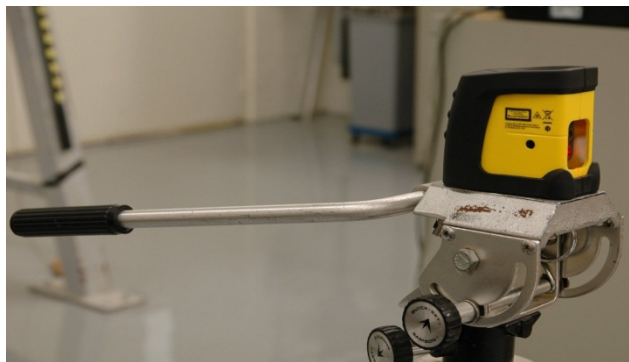

Figure 100. Laser line device set on tripod
- Unfasten the upper portion of the suit jacket and electrically ground the dummy using a cable between a metal component of the dummy and the ground such as that shown in Figure 100.